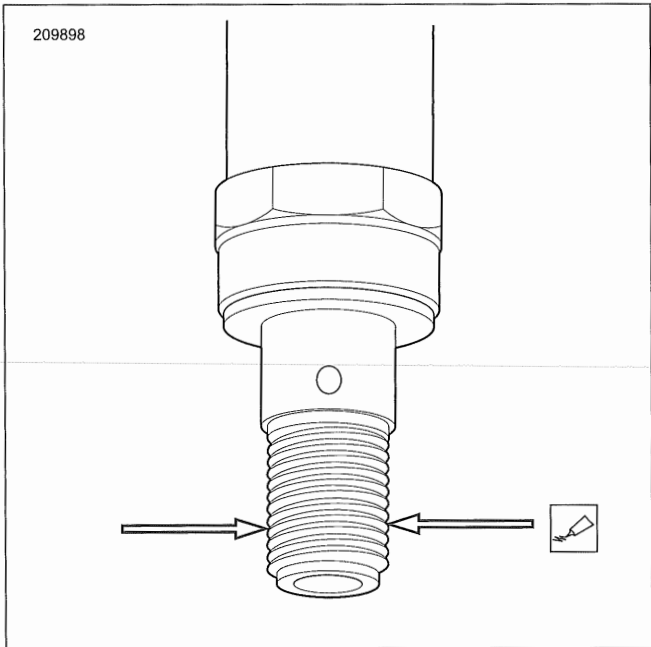

Figure 7-126. Bottom Third
2. See Figure 7-126. Apply threadlocker.